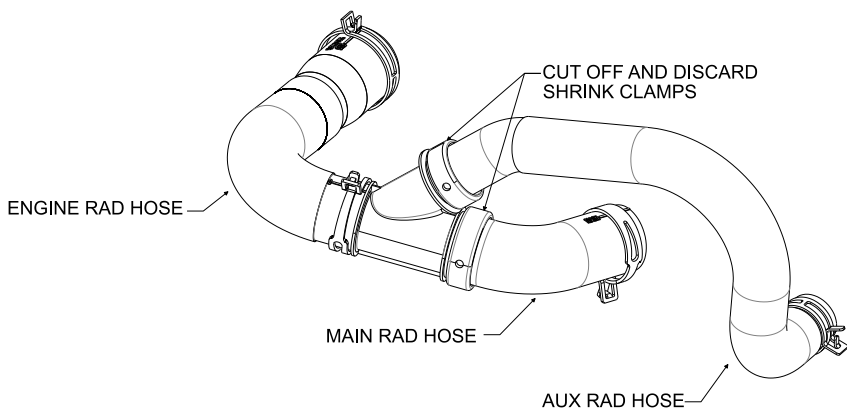

Figure 4.7
- ☐ Modify OEM radiator hoses (Fig. 4.7) as follows: